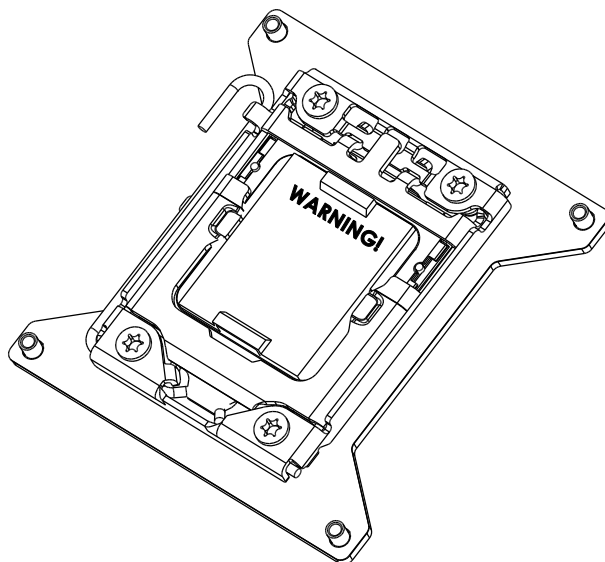

Figure 2-6 Schematic Diagram of CPU Socket
Step 1: Locate the CPU slot on the mainboard firstly. As shown in Figure 2-6.